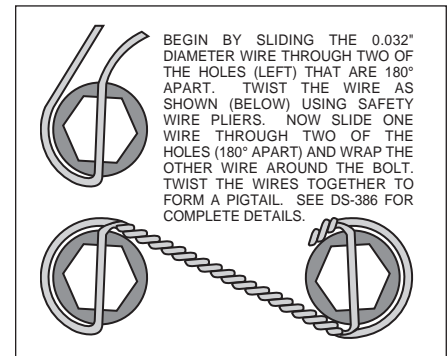

Figure 2. Safety Wire Diagram
• **NOTE:** When cross-drilled bolts are supplied with the rotor bolt kits, the additional step of safety wiring bolts is recommended. Safety wire bolts using standard 0.032 inch diameter stainless steel safety wire as shown in Figure 2. Please refer to Wilwood's data sheet DS-386 (available at www.wilwood.com/Pdf/DataSheets/ds386.pdf) for complete safety wire installation instructions.
- Install the hub assembly (9, 10 and 11, pre-assembled) from the larger I.D. side of the rotor onto the rotor adapter (4) by sliding the eight studs through the corresponding eight holes in the rotor adapter (4) Secure from the other side using nut (12) and torque to specification.